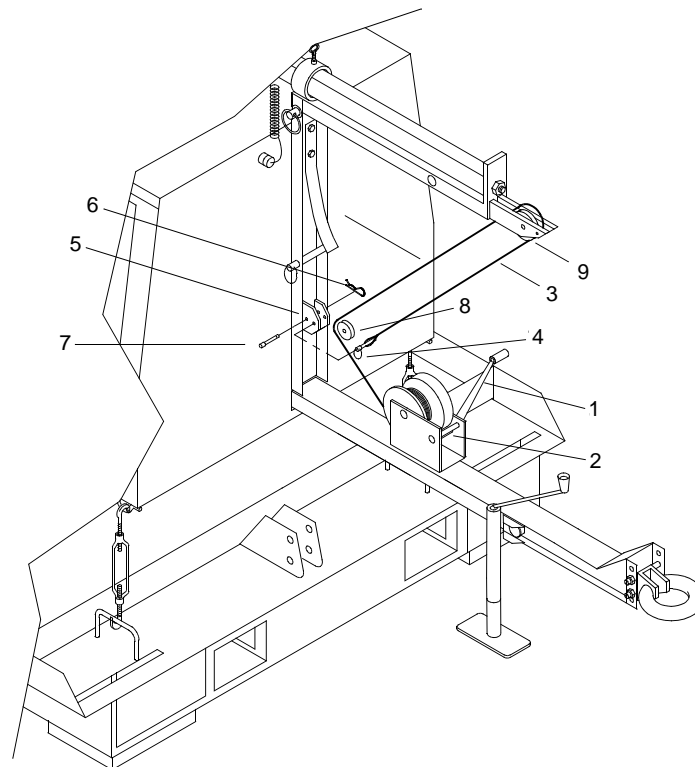

Figure 5. Cable Removal
6. Turn hand crank (figure 5, item 1) on drawbar winch (figure 5, item 2) counterclockwise to provide slack in drawbar winch cable (figure 5, item 3).
7. Remove quick release pin (figure 5, item 4) from tower support pulley bracket (figure 5, item 5) to remove end loop of drawbar winch cable (figure 5, item 3).
8. Install quick release pin (figure 5, item 4) in tower support pulley bracket (figure 5, item 5).
9. Remove cotter pin (figure 5, item 6) and pulley pin (figure 5, item 7) securing tower support pulley (figure 5, item 8) to tower support pulley bracket (figure 5, item 5). Discard cotter pin (figure 5, item 6).
10. Route drawbar winch cable (figure 5, item 3) backwards over pivot support pulley (figure 5, item 9) and load drawbar winch cable (figure 5, item 3) onto drawbar winch (figure 5, item 2) by turning hand crank (figure 5, item 1) clockwise.
11. Position tower support pulley (figure 5, item 8) on tower support pulley bracket (figure 5, item 5) and secure with pulley pin (figure 5, item 7) and new cotter pin (figure 5, item 6).